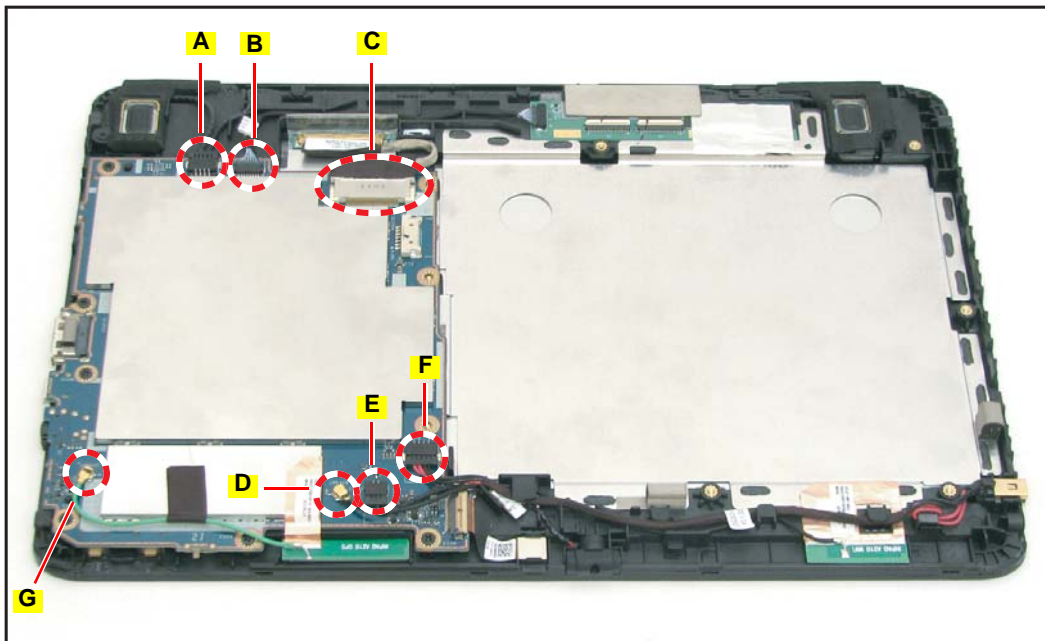

Figure 5-79. Disconnecting the Cables from the Mainboard
2. Disconnect the GPS antenna cable (G). (Figure 5-79, page 5-50)